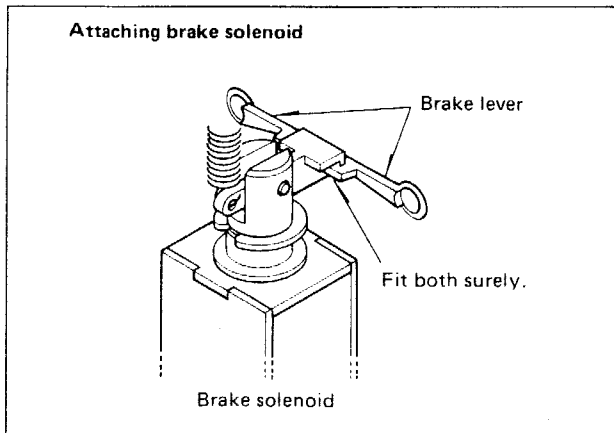

Fig. 2
- c. To remove the brake solenoid, push actuators ① and ② in Photo 12.
- * Attach the brake solenoid so that it gears into the brake lever surely as shown in Fig. 2.